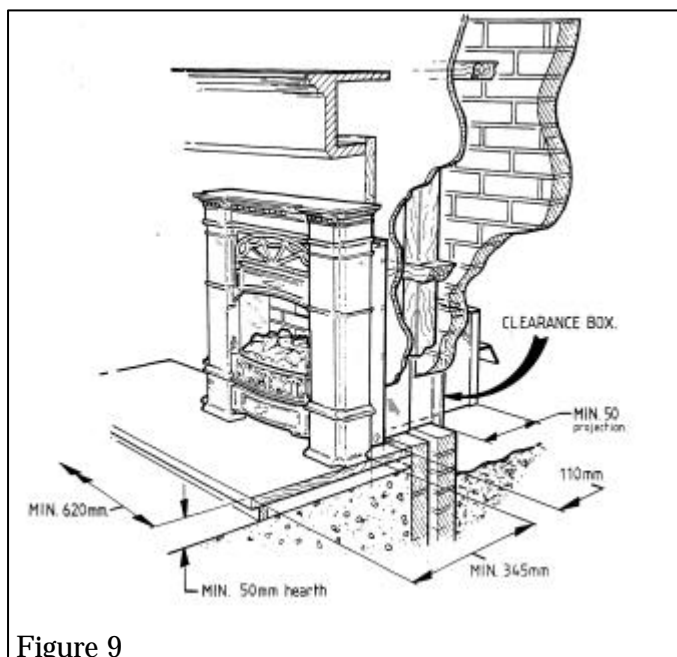

Figure 9
5.4 TIMBER FRAME BUILDING. CONVECTION BOX IN FRONT OF WALL (Figures 9 & 9a)
5.4.3. The non-combustible hearth must project at least 345mm in front of the convection box front flanges and be at least 620mm wide (Figure 9). For this type of installation the hearth must be at least 50mm thick over its total area. Kit 517TFK is
5.4.10 A sloping plate should be fitted above the clearance kit in accordance with The Institute of Gas Engineers publication IGE/UP/7 "Gas installations in timber frame buildings". Section 8.2.1.7. See figures 9 & 9a.